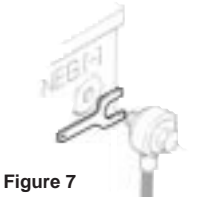

Figure 7
2. Install band (item ⑤) Slip band around battery. **DO NOT slip PriorityStart!** under the band at this time.
3. Install U-Clip (item ④) securely to negative battery cable and post. Reconnect negative battery cable [Fig. 7.] **DO NOT** connect ground wire to U-Clip at this time.